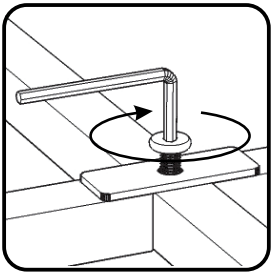

Figure 1
Attach Stretcher (D) to Stretcher (C) with Head Cap Bolt (short), tightening bolt only halfway. (See Figure 1)